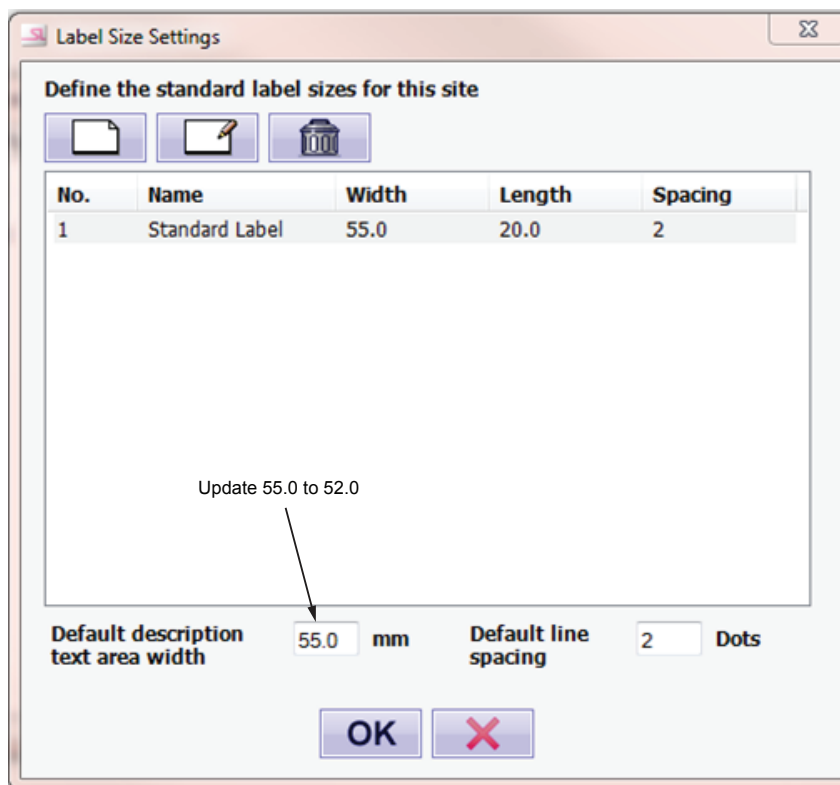

Figure 10-1
3. The Label Sizes Settings Dialog box will open. Update Default description text area width 55.0 to 52.0 mm. See Figure 10-1.